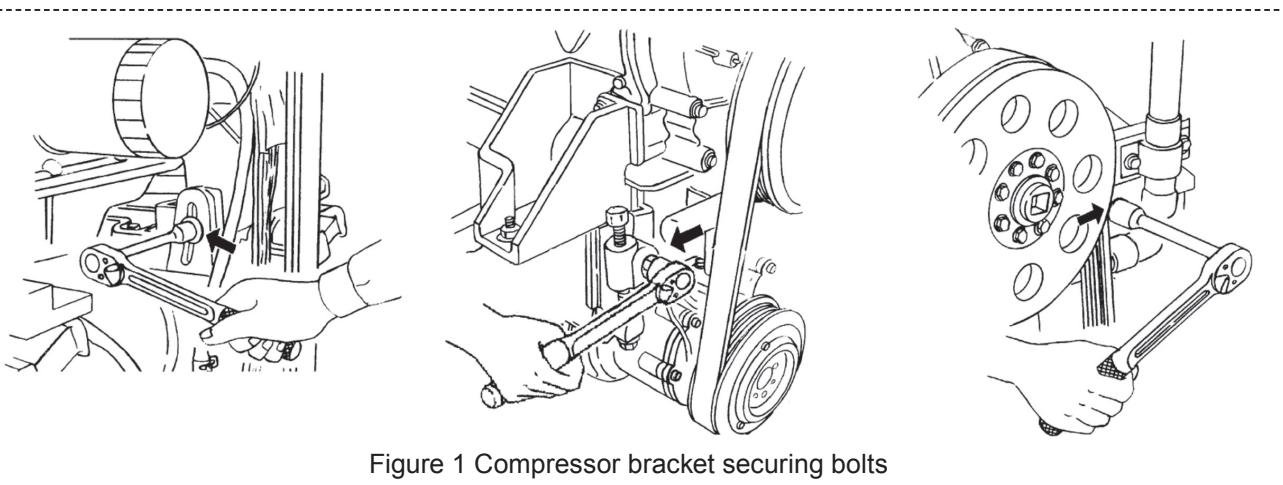

Figure 1 Compressor bracket securing bolts
- 1) Loosen the compressor bracket securing bolts. (3 locations indicated by arrows in Figure 1)